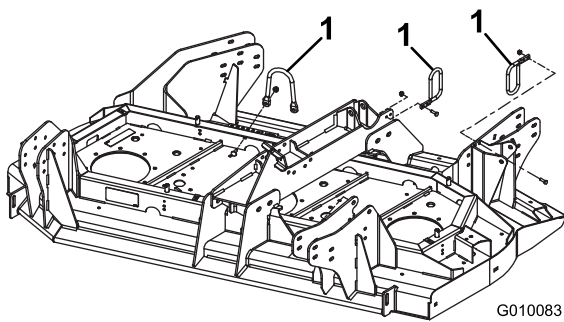

Figure 5
3. Remove (3) hose guides from cutting unit (Figure 5). The (2) guides, around the hoses, can stay on the hydraulic hoses.
9. Position and secure the three (3) hose guides to cutting unit (Figure 5).